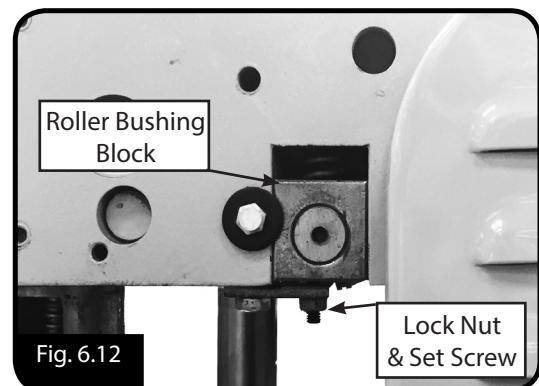

Fig. 6.12
7. Loosen the lock nut and move the set screw (Fig.6.12) to adjust the height of the in-feed roller bushing block until the dial indicator shows 0.1mm, which is the recommended distance for the in-feed roller below the cutter head.